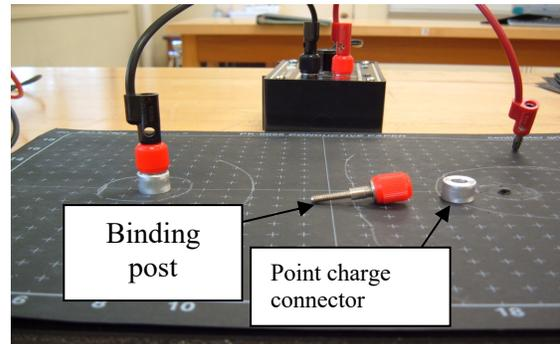

Figure 17-2 Point charge equipment
1. Attach the conductive sheet to the rubber covered board using two (screw-type) binding posts and two point charge connectors. See Figure 17-2.